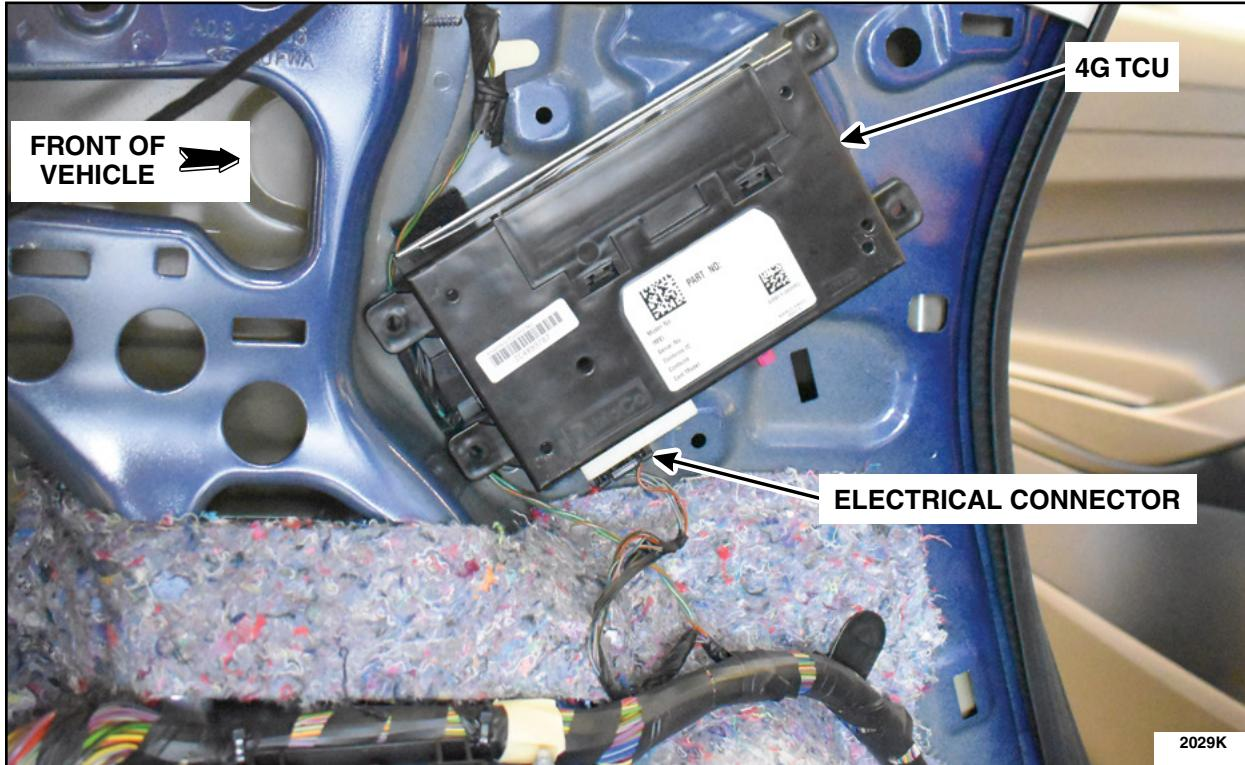

FIGURE 9
12. Connect the electrical connector into the 4G TCU. See Figure 9.